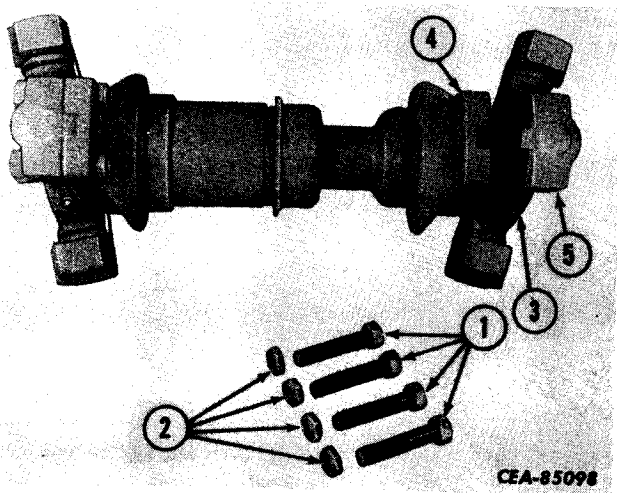

Figure 5-4
Remove cap screws (1, Fig. 5-4) and lock nuts (2) that secure spider and bearing assembly (3) to yoke (4).